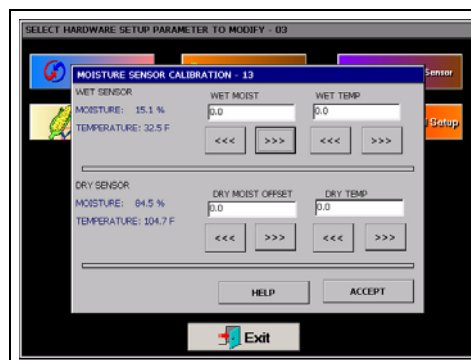

Figure 5S
7. **Calibrate Moisture Sensor:**  There are two (2) moisture/temperature sensors per dryer - one for incoming grain (wet) and another for outgoing (dry). Each device has one moisture and one temperature sensor included. (See Figure 5S.)